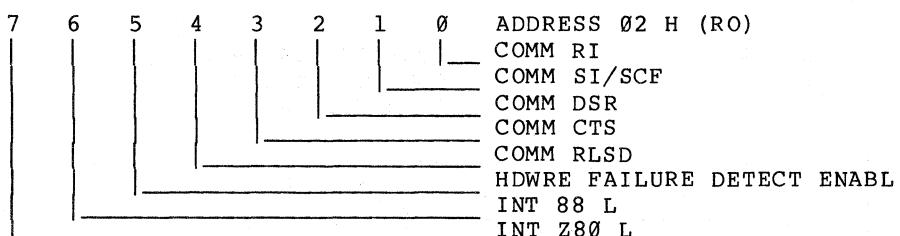

Figure 7. Communications Status Register (8088 Format)
3.1.4.5.2 Communications Status Register - The Communications Status Register is an 8-bit read only register that holds the status of the modem control lines for the communications port. It also serves as a status register for the special interprocessor interrupt lines and the status of the hardware failure detect enable signal. This register is accessed by performing a read to address 02H. The register bit format is shown in Figure 7 and the bits are described in Table 2.